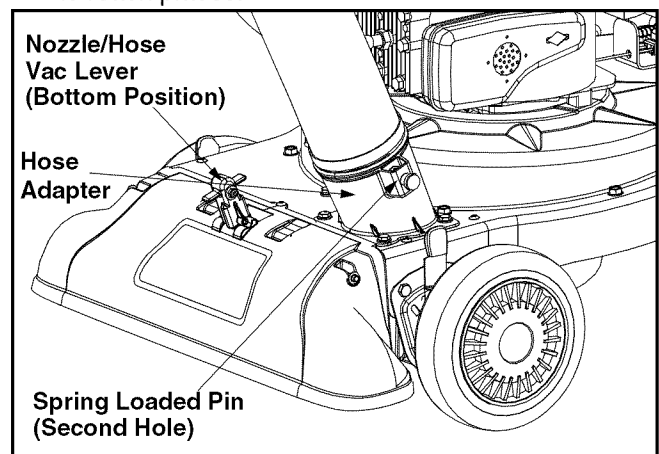

Figure 13
- Place nozzle/hose vac handle in the bottom position on the nozzle to redirect vacuum to the hose assembly. See Figure 13.